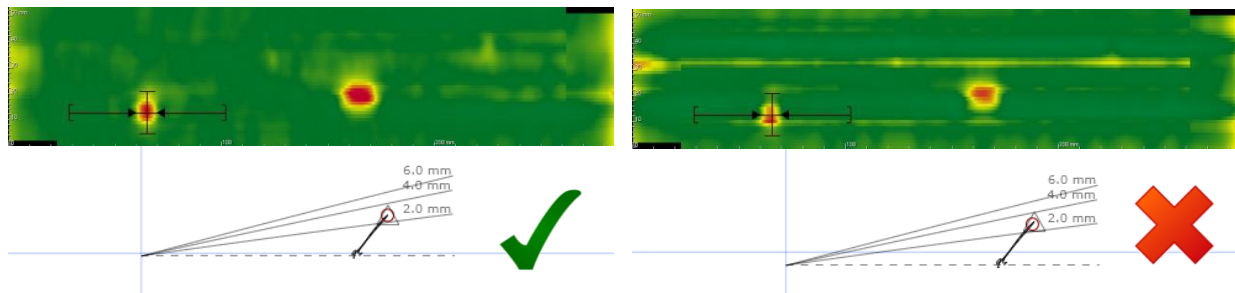

Figure 19. Correct and incorrect user material calibration
- III) Verify that the user material calibration has been done properly around the defect (see Figure 19).